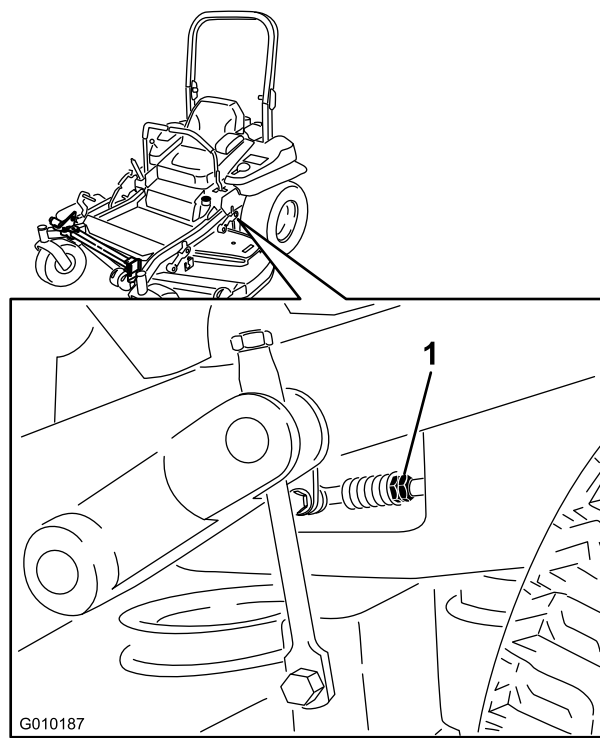

Figure 100
11. Adjust the pump control rod lengths by rotating the double nuts on the rod in the appropriate direction until the wheels slightly creep in reverse (Figure 100).